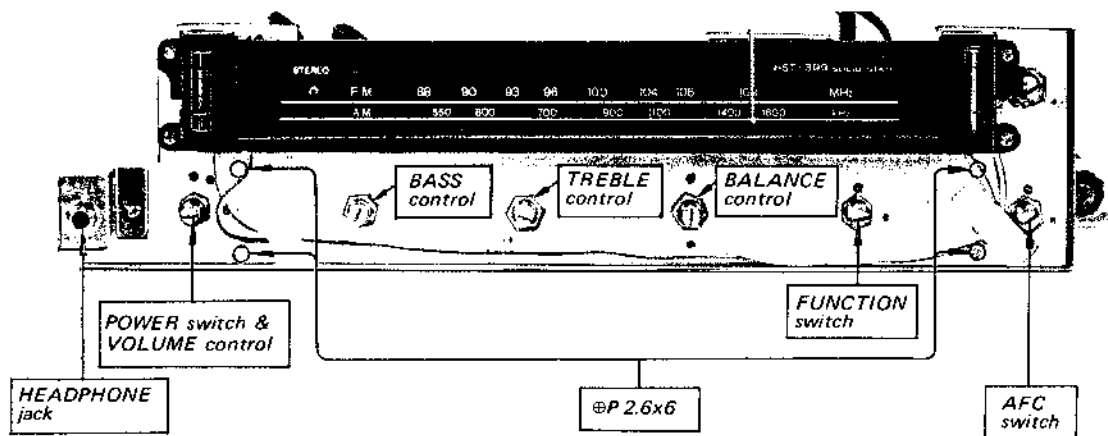

Fig. 2-7 Front subchassis removal
2. Remove the four screws (+P 2.6x6) securing front subchassis to the main chassis as shown in Fig. 2-7.